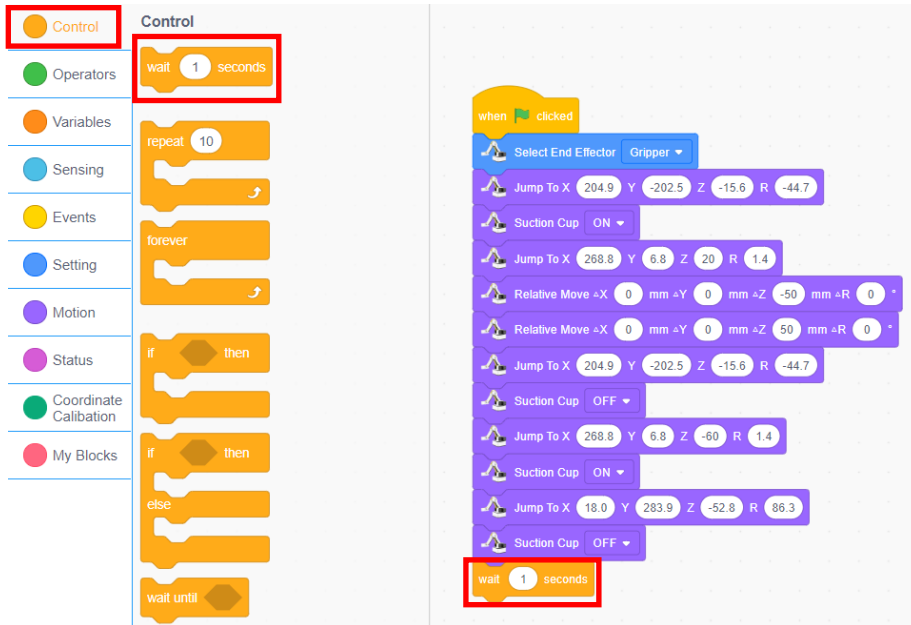

Figure 1.26 Waiting for the ink to dry
Step 7: Wait for the ink to dry. Click the "**Control**" tab and drag the "wait (1) second" block to put it together with the previous block, as shown in Figure 1.26.